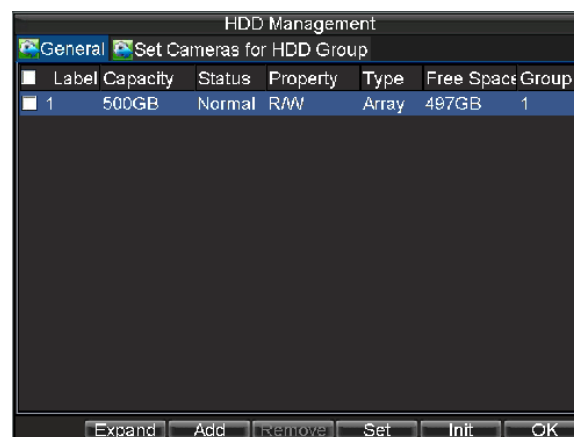

Figure 1. HDD Management Menu
1. Enter the HDD Management menu by clicking Menu > HDD, shown in Figure 1.